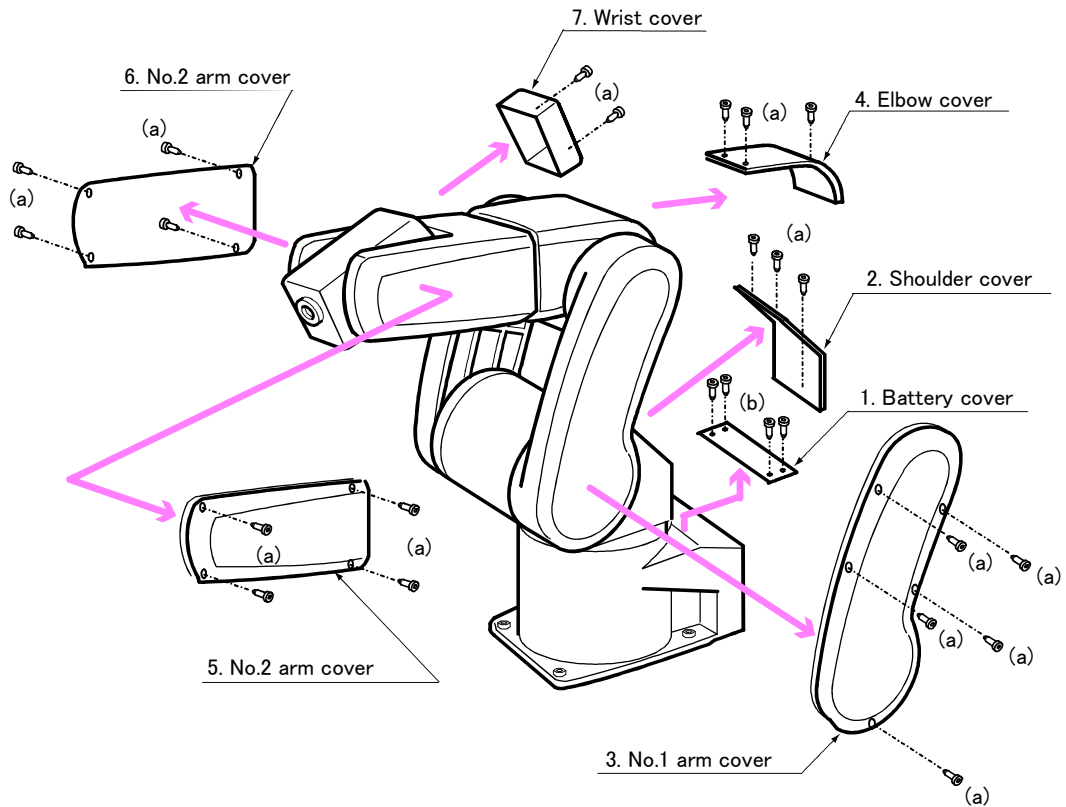
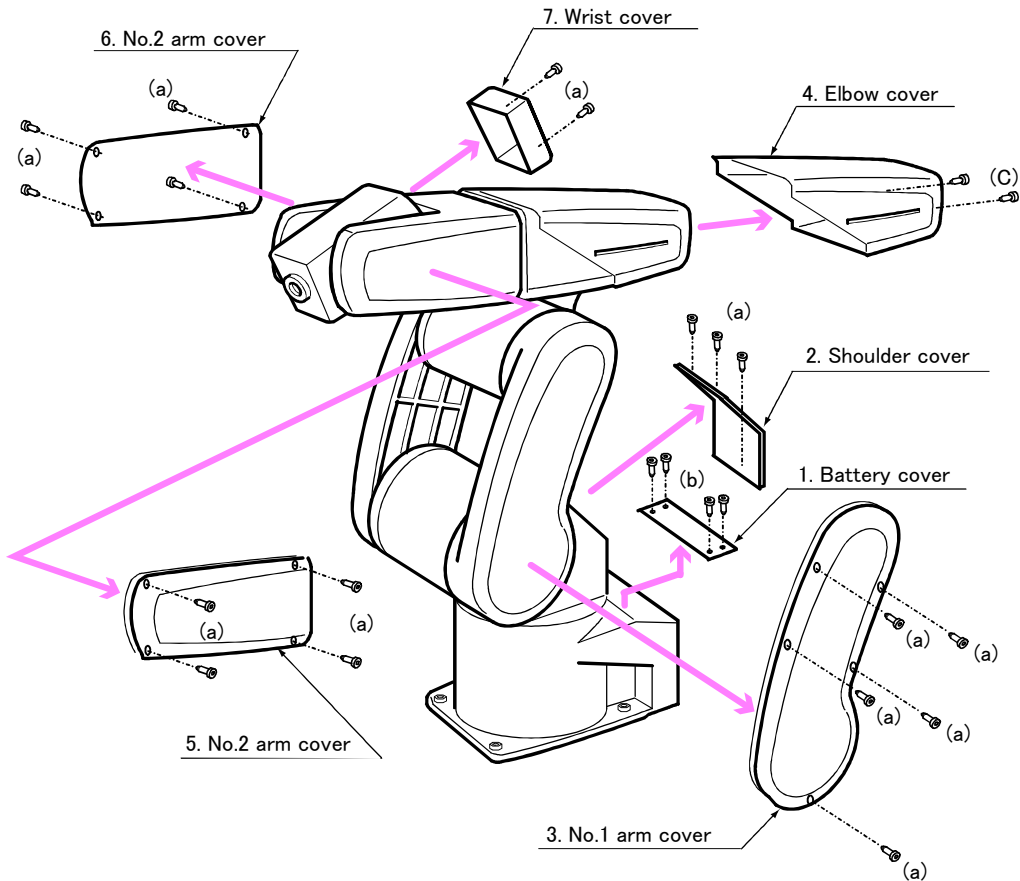

Fig.5-4 : Installing/removing the cover (5-axis type)
Fig.5-5 : Installing/removing the cover (6-axis type)
- (1) Refer to Fig. 5-4 when using the 5-axis type robot arm, and Fig. 5-5 when using the 6-axis type robot arm.
- (2) The names of the covers are given in Table 5-3, and a list of the cover installation screws is given in Table 5-4.
- (3) There are some covers that may be difficult to remove due to the robot posture. In this case, change the robot posture with jog operation, and then remove the cover.
- (4) When attaching the cover after maintenance and inspection, use the detaching procedure in reverse.
The part Nos. and symbols in Table 5-3 and Table 5-4 correspond to Fig. 5-4 and Fig. 5-5.
- 2) Follow Fig. 5-4 or Fig. 5-5, and remove the No. 2 arm covers (L) and (R).